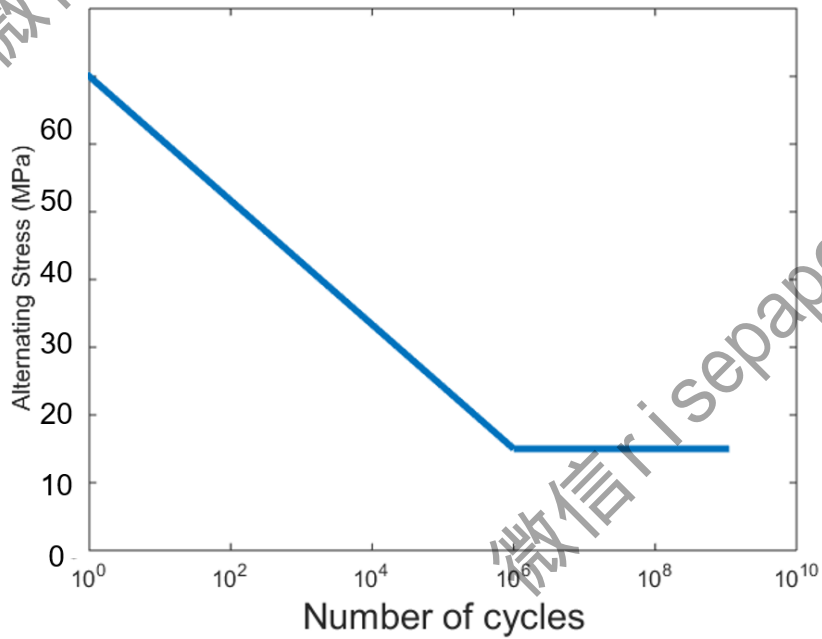

Figure Q2c
- Using the S/N curve for the bearing support that is shown in Figure Q2c, estimate the fatigue life of the bearing supports at the critical speed assuming that the vibration results in purely axial stresses in the bearing supports. [2%]